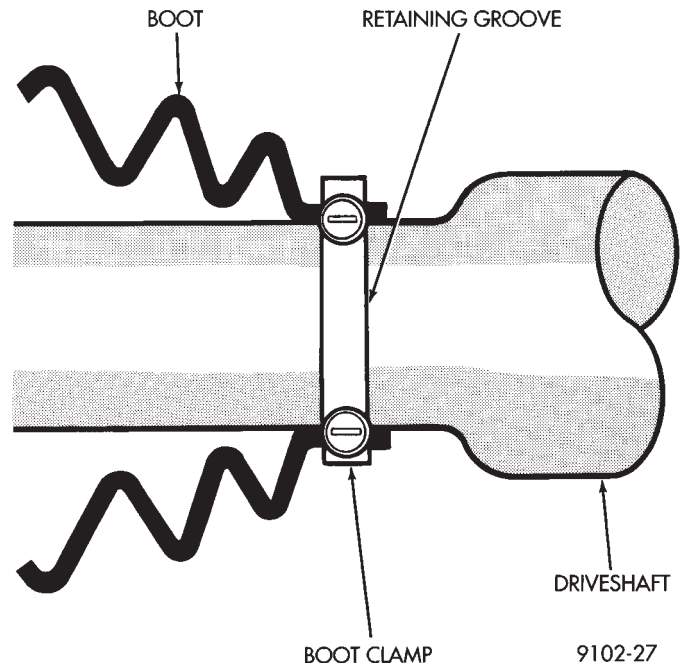

Fig. 1 C/V Joint Boot Positioning G.K.N.
(1) Slide the small end of the boot over the shaft. Position the boot to the edge of the locating mark or groove, whichever is appropriate (Fig. 1).
(2) Install the C/V joint. See Inner or Outer C/V